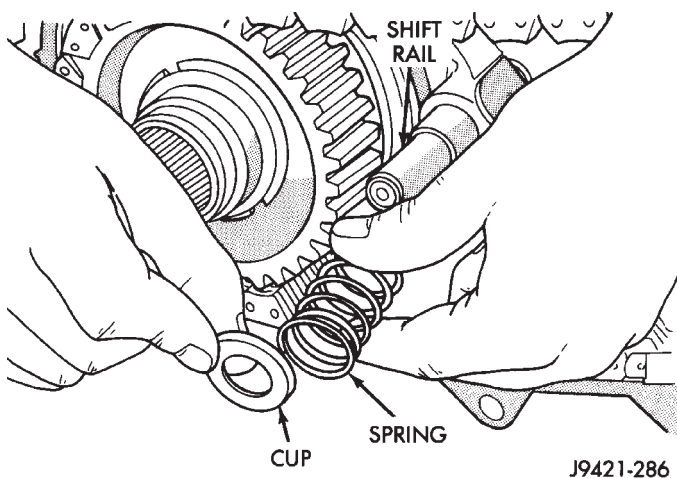

Fig. 27 Shift Rail Cup And Spring Removal
- (8) Remove shift rail cup and spring (Fig. 27).